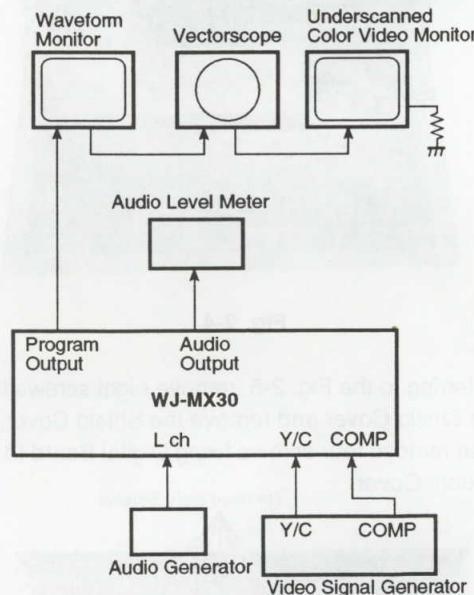

Fig. 3-1
- The Fig. 3-1 shows the connecting diagram for the adjustment procedure.